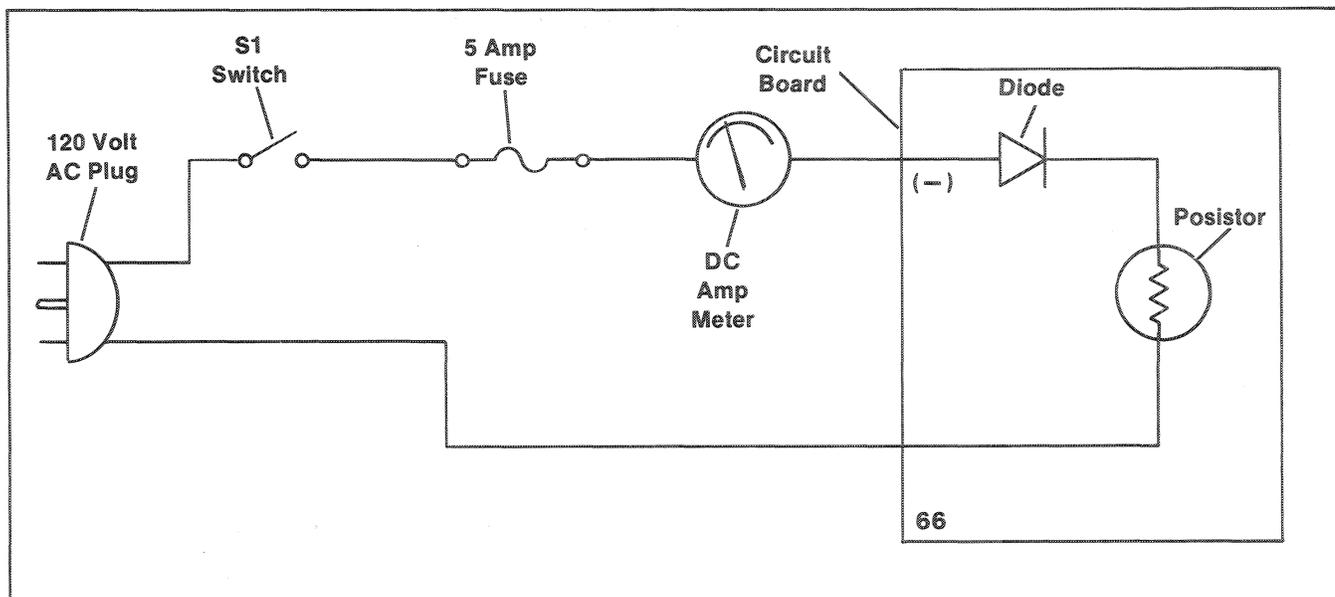

Figure 5-2. Flashing Board Test
1. Connect the components as shown in Figure 5-2.